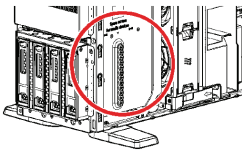

Fig.1
To install in server, refer to the server user's manual. An accessory screw of fig1 is used.
- When using the rails with the Internal RDX Drive, use the screw holes in the front cover illustrated in Fig. 1 (see Fig. 2). (Perform the same operation on the opposite side. Secure two screws on each side, four screws total.)